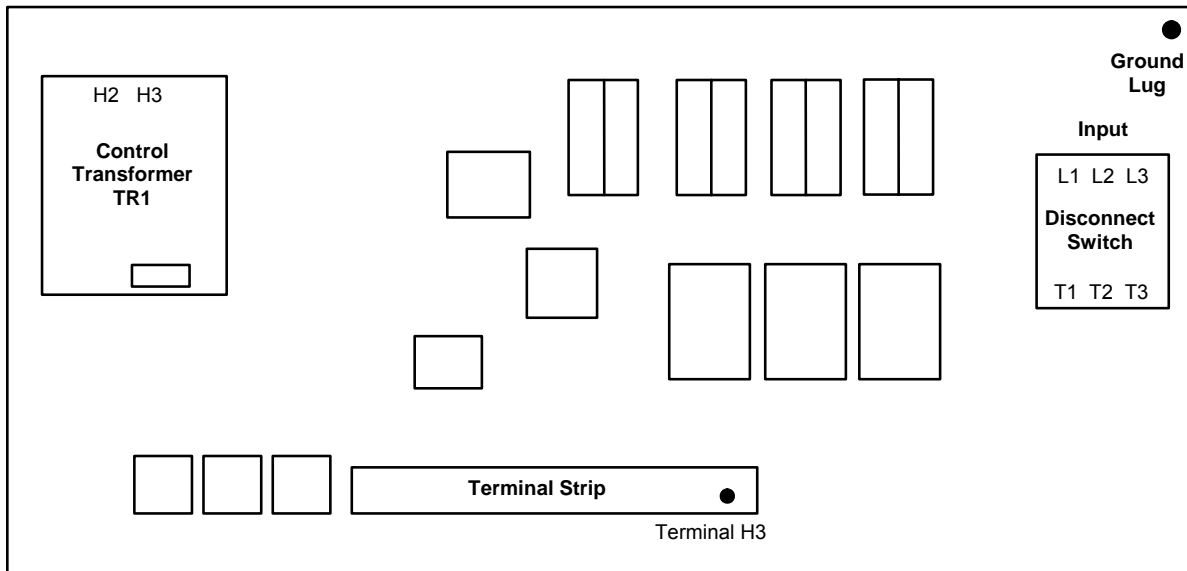

Figure 2-1 – Location of Input Configuration Terminals on the Electrical Sub Panel
**NOTE:** Refer to Figure 2-1 on the previous page for the location of the input voltage configuration terminals on the electrical subpanel that are described below.